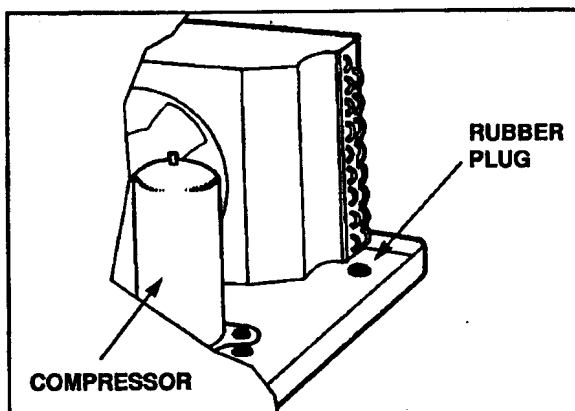

Fig. 19 – Rubber Plug Position In Basepan
- Remove rubber plug from drain stub in chassis basepan. See Fig. 19.